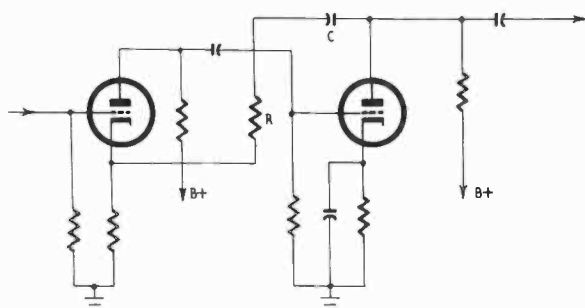

Fig. 809. The feedback components are indicated by R and C. Amplifier faults due to these parts are described in the text.
Thus, an open capacitor (C) in Fig. 809 would eliminate the boost, but would also raise gain due to loss of feedback completely;